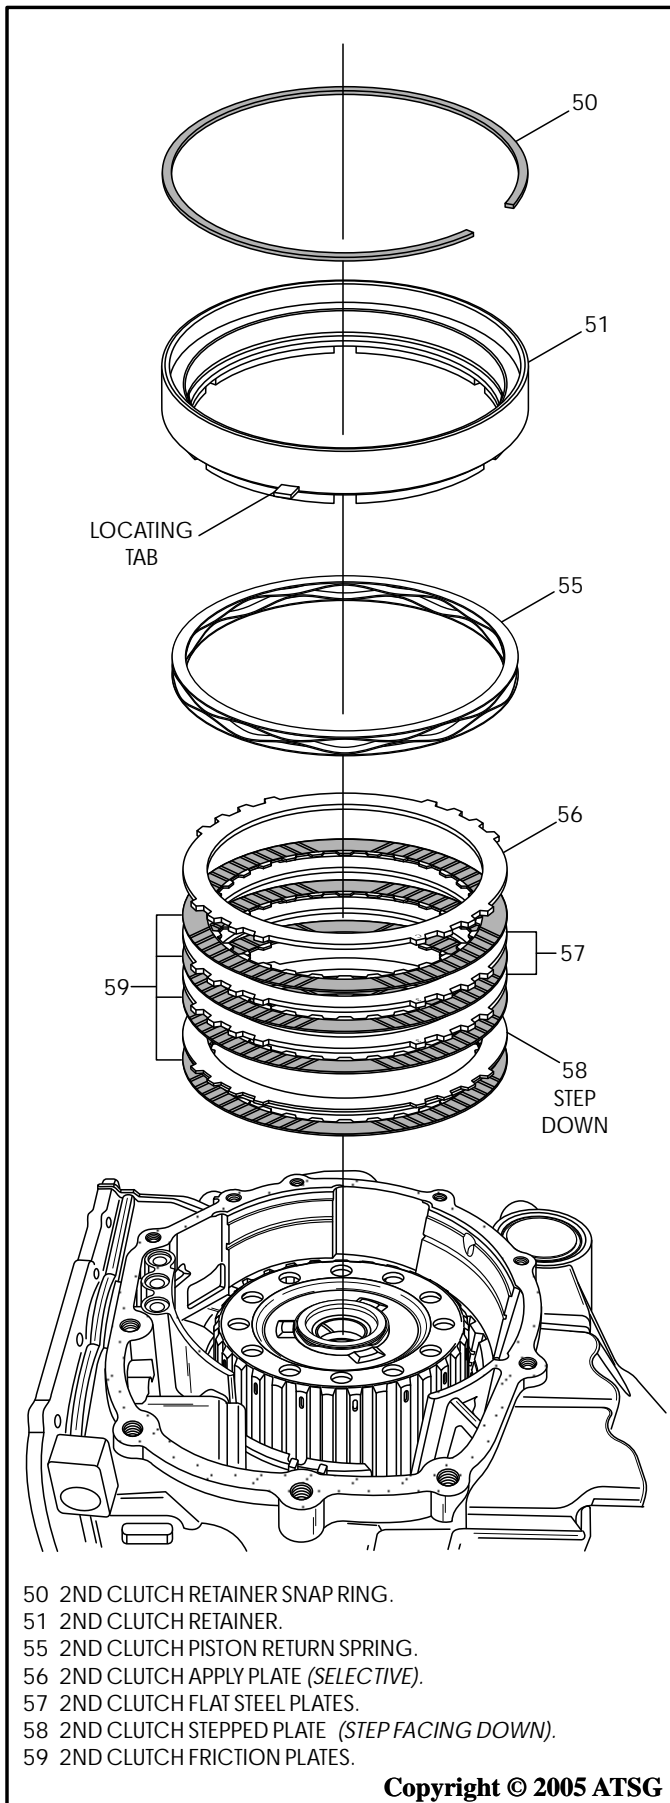

Figure 182
58. Now re-install the 2nd clutch plates beginning with 1 friction plate, as shown in Figure 182.
59. Install the "Stepped" apply plate, as shown in Figure 182, with the **step facing down**.
60. Install the remaining friction and steel plates, as shown in Figure 182.
61. Install the selective apply plate, as shown in Figure 182.
62. Install the 2nd clutch piston return spring, as shown in Figure 182.
63. Install 2nd clutch piston and retainer assembly, as shown in Figure 182, and install snap ring.
- Note: Ensure that locating tab is engaged into the case groove (See Figure 182).**